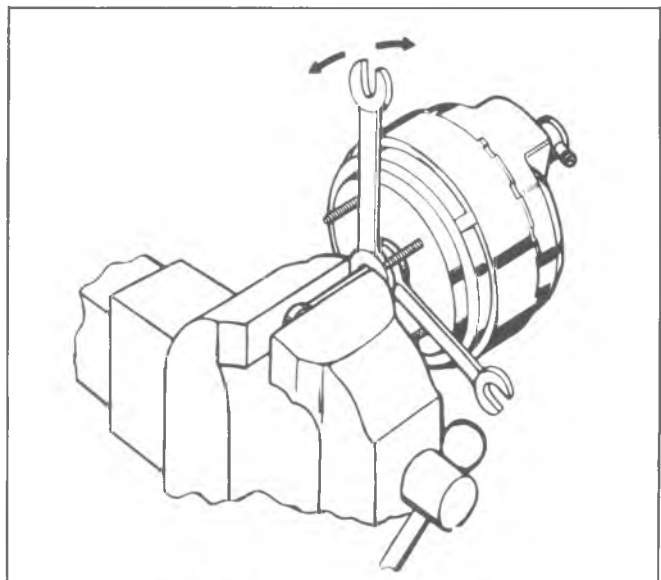

Fig. 5-1B--Removing Air Valve Rod
7. Position two small blocks of wood on either side of air valve rod and install end of air valve rod in vise, leaving just enough clearance to position two (2) open end wrenches between the vise and retainer on hub of rear plate.
8. Using the wrench nearest the vise as a pry, force the air valve off the ball end of the rod. **DO NOT** damage the plastic hub or allow vacuum cylinder to fall to the floor (fig. 5-1B and 5-2B).
9. The edge of the rear housing contains twelve (12) lances. Four (4) of these lances (one in each quadrant) are deeper than the other lances. The metal that forms the four (4) deep lances must be partially straightened so that the